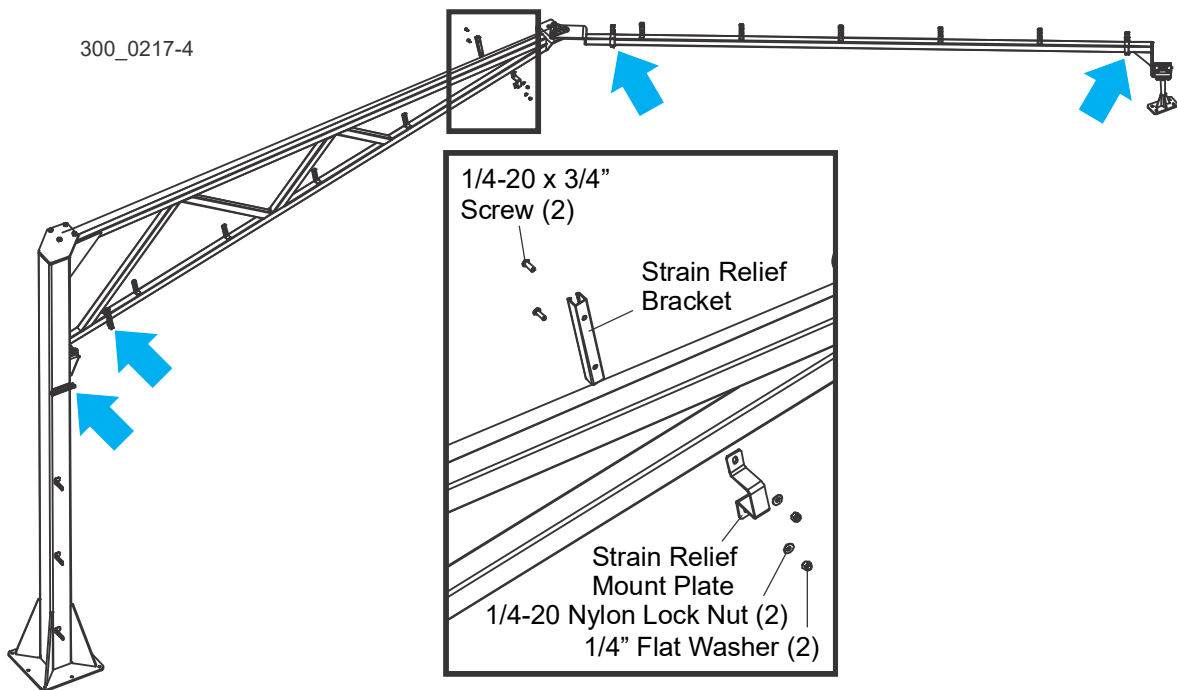

FIG. 3-10
- Assemble the strain relief brackets. (See Figure 3-10.)